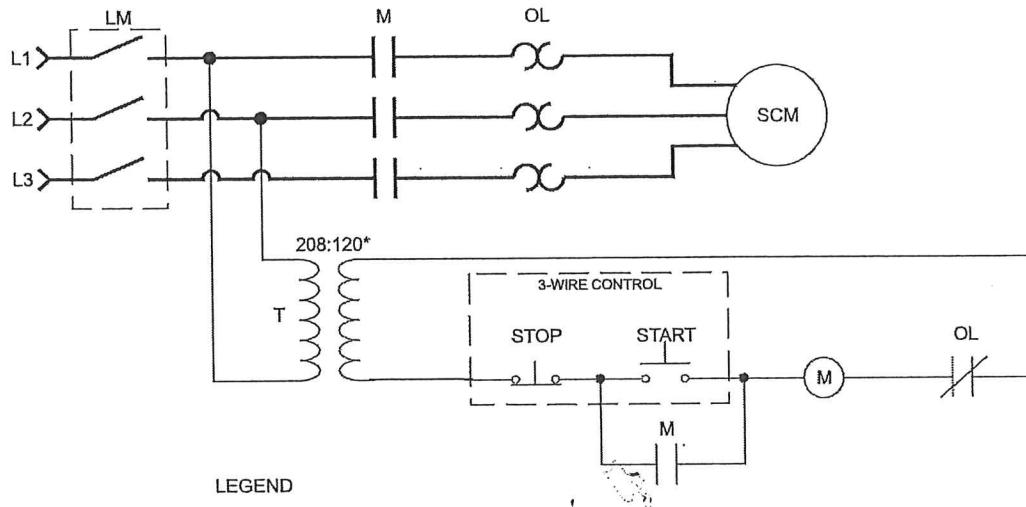

Figure 3 – Three Wire Control
A Three Wire control (figure 3) is also known as LOW VOLTAGE PROTECTION. The circuit will de-energize on low voltage (no voltage) and must be MANUALLY reset when power is restored. The equipment will NOT automatically restart.
- 1. Wire the circuit as shown in Figure 3 – Three Wire Control.